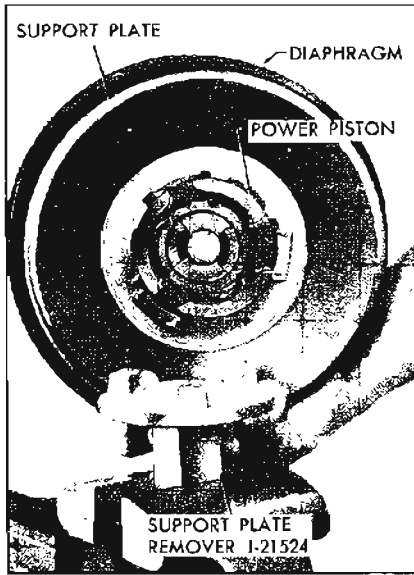

Figure 9-23—Positioning Support Plate Remover in a Vise
3. Place Power Piston Wrench J-21524 in vise with square shank in vise. Hold support plate and power piston with the tube of the power piston up. See Figure 9-23.